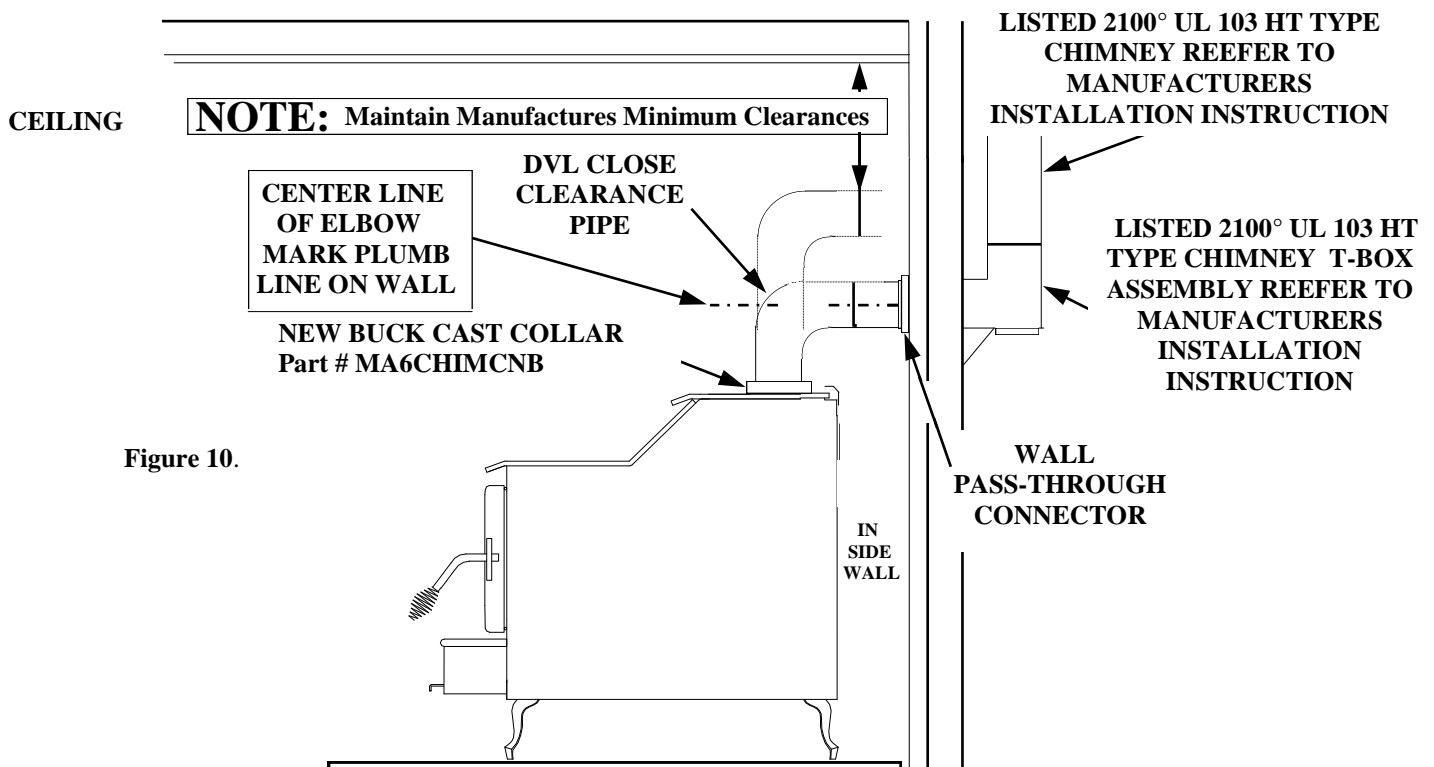

Figure 10.
(See Page 15, Figure 10.)
3. Measure up so there will be at least 1/4" rise per foot of horizontal connector pipe, maintaining clearances to the ceiling as noted in page 15, figure 10. This will give you the center of the hole for the chimney penetration.
5. Connect the DVL close clearance pipe to the tee-box, per manufacturer's instructions. DVL close clearance pipe is to be connected with (3) sheet metal screws or rivets to New Buck Cast Collar, after New Buck Cast Collar Part# MA6CHIMCNB has been attached to stove. (See Page 15 ,Figure 10.).